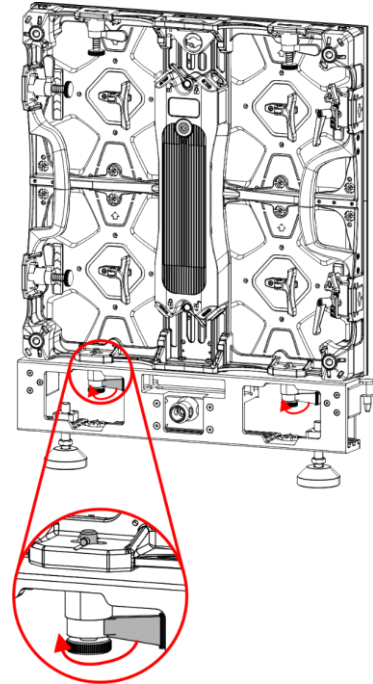

Fig. 32
- 06) Turn **lever (A)** of the left **locking mechanism (06)** on the rigging bar clockwise to tighten the rigging bar to the LED screen, as shown in Fig. 32 and 33.
- 07) Repeat steps 3–5 for the right **locking mechanism (06)** of the rigging bar.